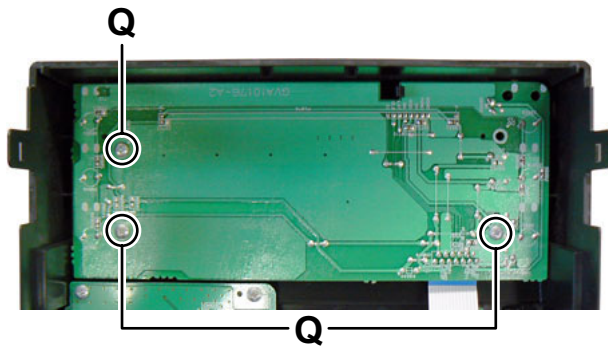

Fig.16
3.1.9 Removing the FL board (See Fig.16)